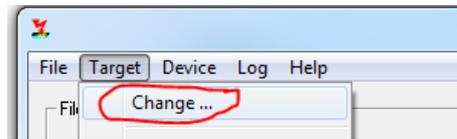

Figure 2: Setting Target Configuration
4. Set the target configuration (Figure 2):